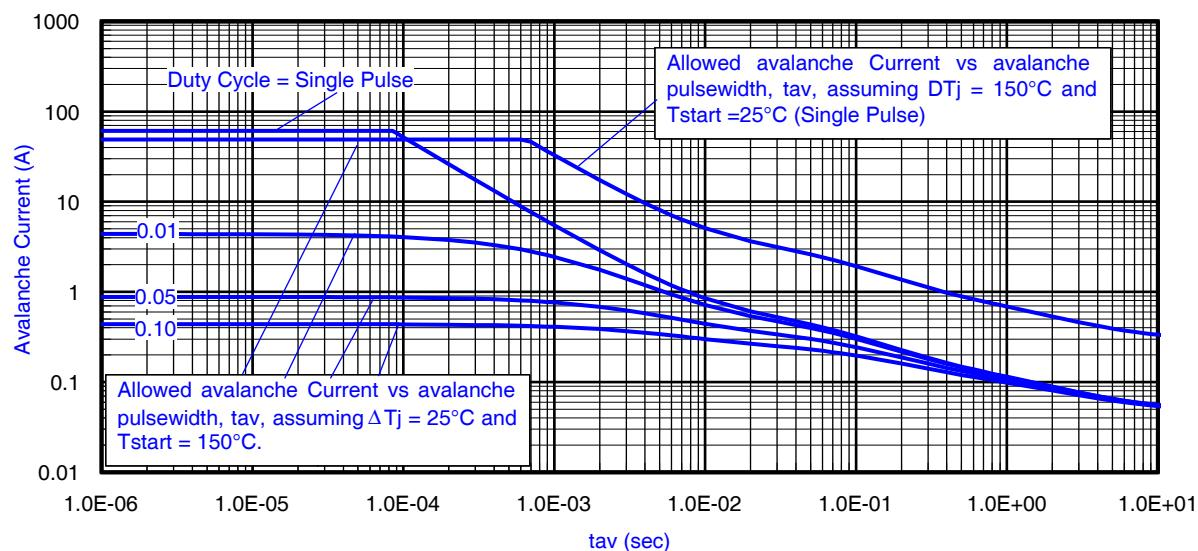

Fig 16. Typical Avalanche Current vs.Pulsewidth
Notes on Repetitive Avalanche Curves , Figures 16, 17:
7. ΔT = Allowable rise in junction temperature, not to exceed $T_{j\max}$ (assumed as 25°C in Figure 16, 17).